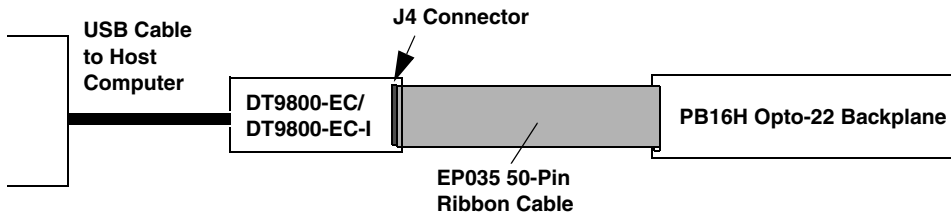

Figure 8: Connecting the PB16H Opto-22 Backplane to the DT9800-EC or DT9800-EC-I Series Module
2. Plug the other end of the EP035 cable into the 50-pin connector on the PB16H Opto-22 backplane, as shown in Figure 8.